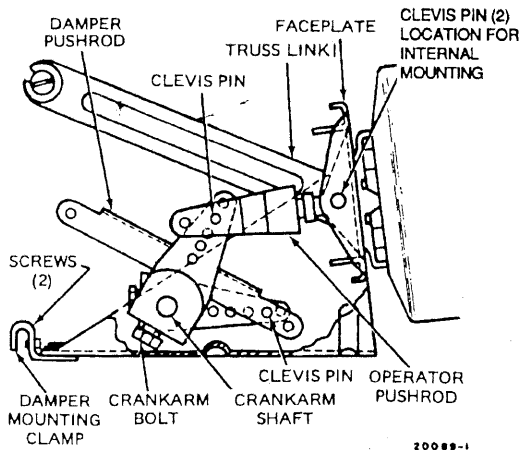

Fig. 30. Converting an Internally Mounted Normally Open Actuator to Externally Mounted.
2. Remove all four clevis pins (Fig. 30).
2. Loosen two damper mounting clamp screws and remove clamp if necessary (Fig. 30).
6. Loosen locknut and adjust pushrod to dimensions shown on Figure 30. Tighten locknut.